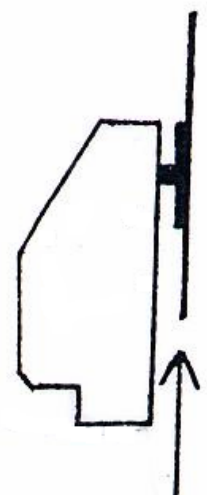

Fig. 2 Driving direction
- Mount the Quadsaw so the blades are running in the driving direction (Fig. 2).